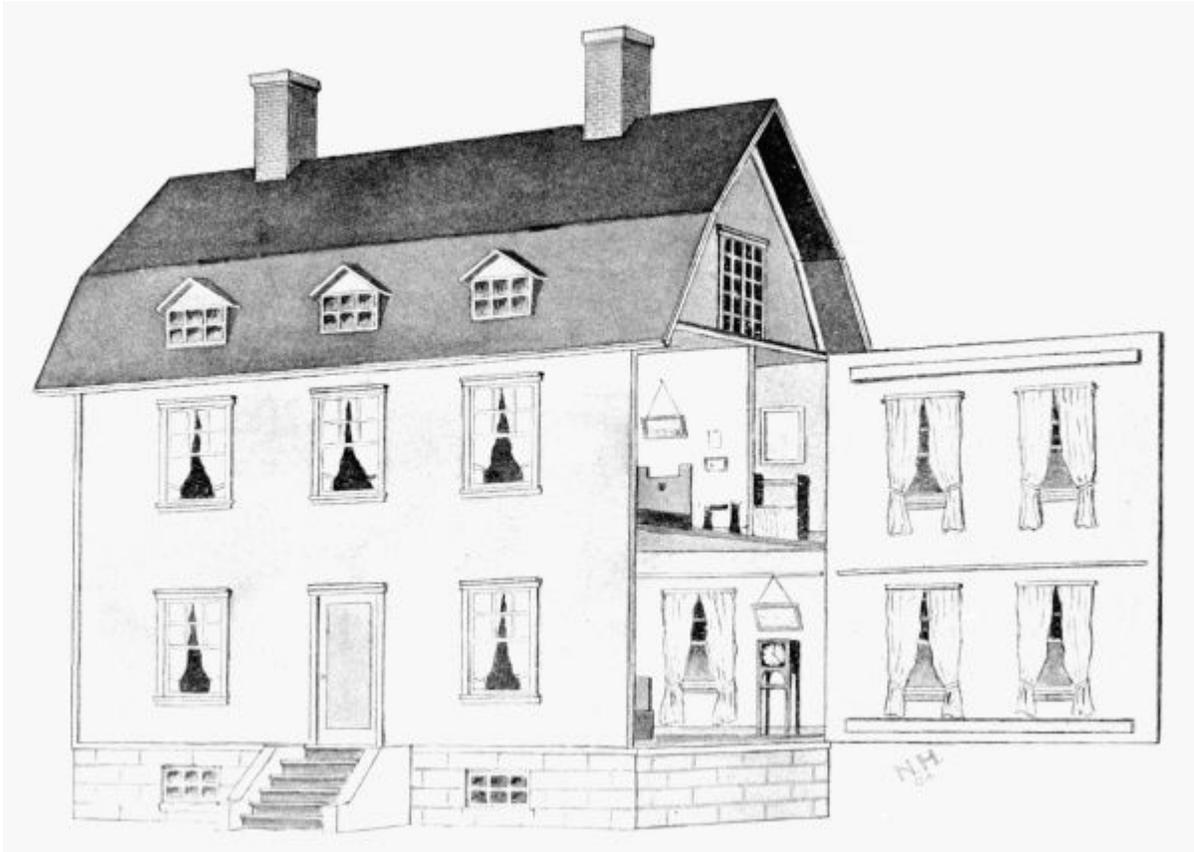

FIG. 64. A COLONIAL DOLL-HOUSE.
**The Ends of the House** should measure twenty inches square. Fasten the boards together with battens at top and bottom, and hinge them to the rear wall (see plans and Fig. 64). Small hooks on the ends of the house will make it possible to fasten them shut.
The **Door and Window Openings** in the places indicated upon the plans and Fig. 64, first boring holes in the four corners of each window and door space; and then connecting them with a compass-saw. With the exception of the front and rear door, and the windows in the basement and gable-ends, make all openings three by five inches, and two inches above the floor. The casement window openings in the gable-ends are to be four by five inches and extend to the floor. Cut three-by-seven-inch openings for the doors, and make the basement window openings two by three inches.